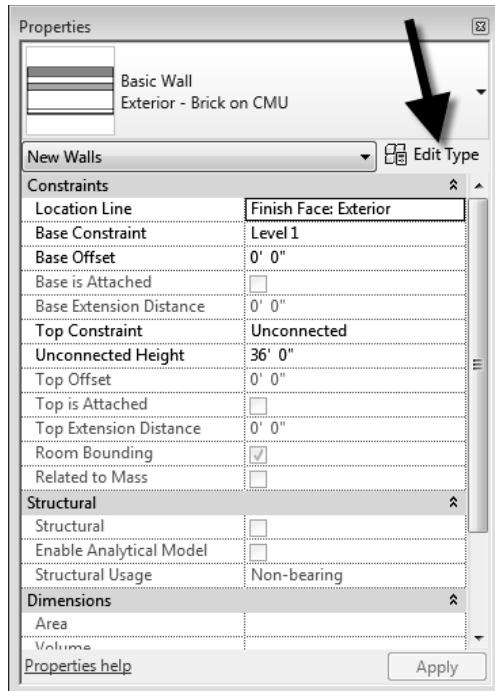

FIGURE 3-2.3 Properties Palette
- Click the **Edit Type** button on the Properties Palette (Fig. 3-2.3).